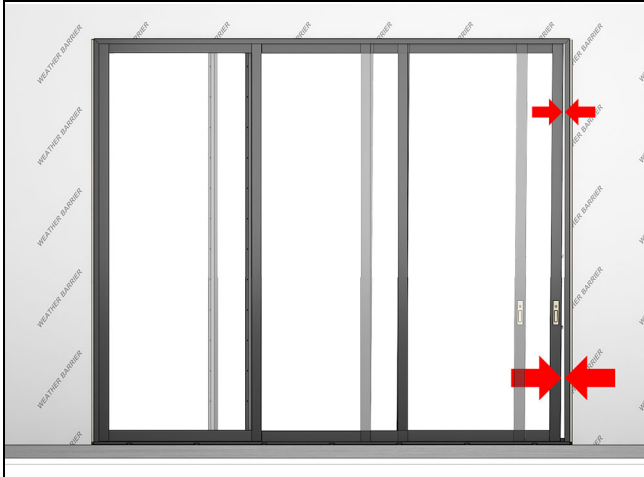

Figure 185
1. Move the operator panel toward the locking jamb until there is a slight gap. Check for an even reveal/gap between the panel and the jamb. See Figure 185.